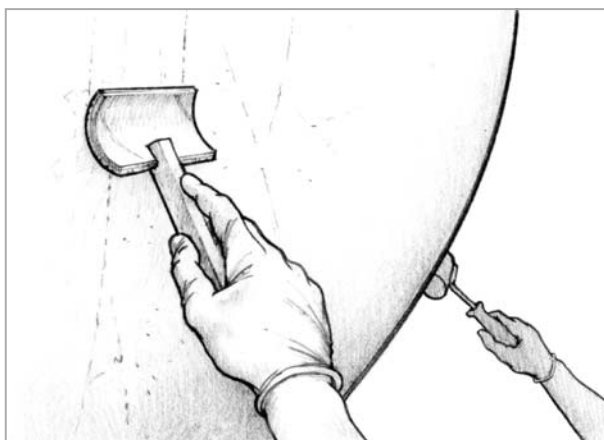

Figure 19 Tip off each batch, as soon as it is applied, by dragging a roller cover brush lightly over the wet surface.
8. Tip off each batch, as soon as it is applied, by dragging a roller cover brush lightly over the coating in continuous, parallel, overlapping strokes. Press hard enough to smooth the stipple and remove air bubbles, but not hard enough to remove any of the coating (*Figure 19*). Overlap and blend in the edge of the previous batch. The proper film thickness will flow out smooth and level, even on vertical surfaces. *See Appendix A or the 800 Roller Cover package for information on making a roller cover brush.*